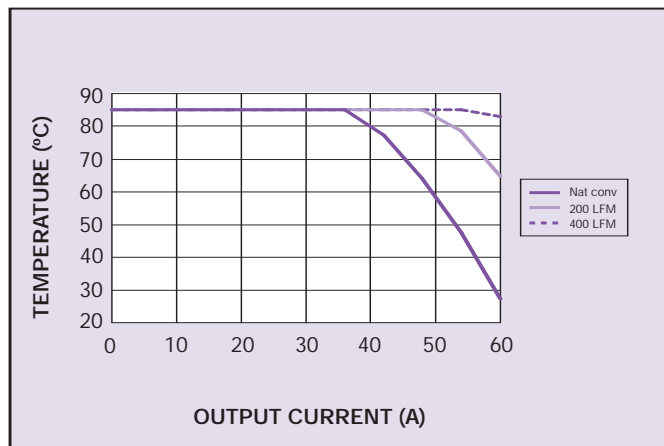

Figure 1 - Safe Operating Area
- See Figures 1 and 2 for safe operating curves. All power pins must be used.